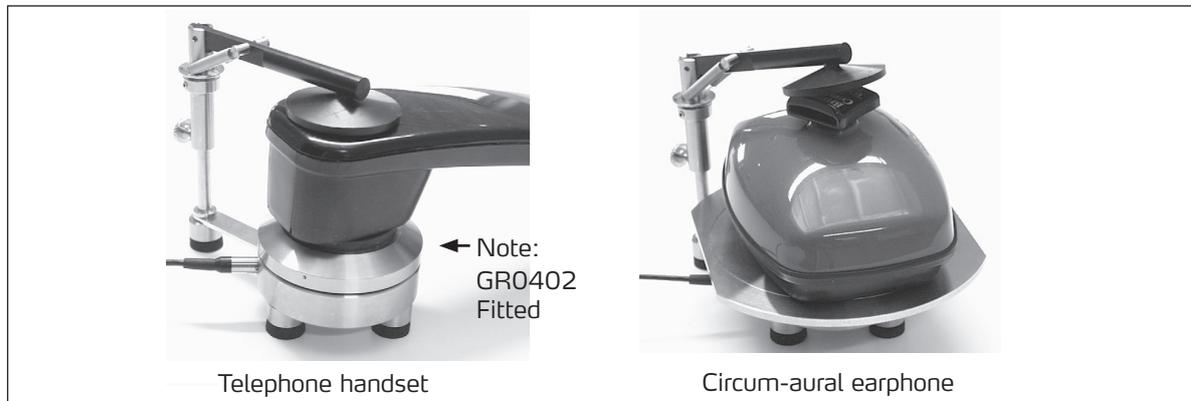

Fig. 4. Some examples of mounting the earphone on the test jig
- 3) Mounting the earphone on the test jig (see examples shown in Fig. 4)